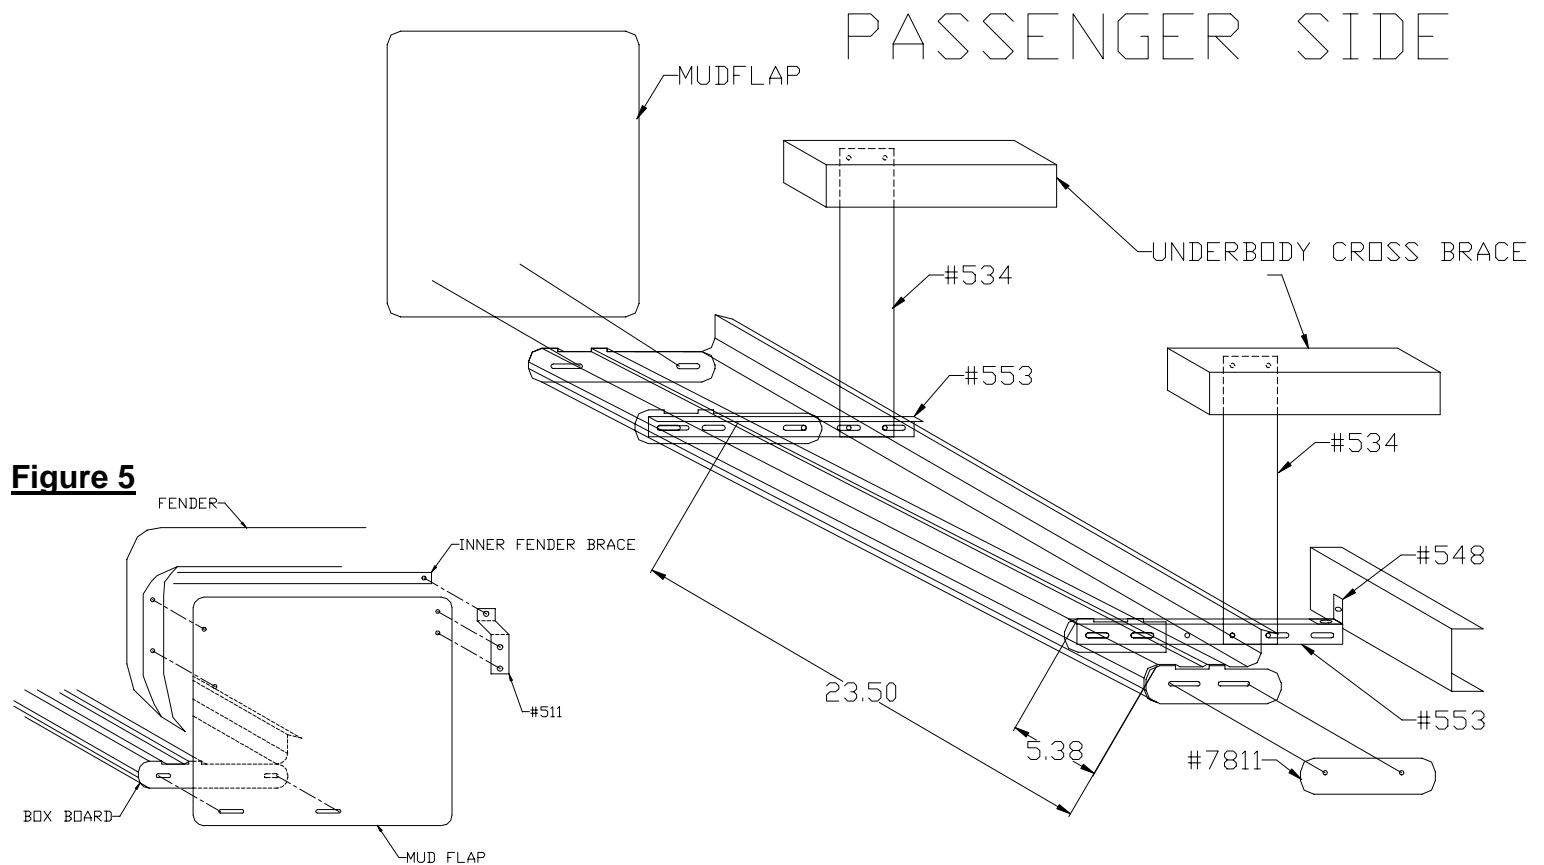

Figure 5
Step 6: Make sure the rear of the box board is level outward from the vehicle. Attach the bent flap brace to stainless steel mud flap. Install with a screwdriver head bolt, lock washer, and nut. Attach the other end to the inner fender brace bolt. **(SEE FIGURE 5)**